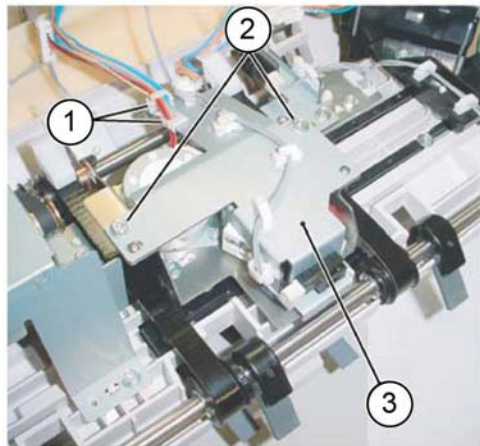

Figure 4 Bracket assembly removal
9. Remove the bracket assembly, **Figure 4**:
- a. Release the harness from both clamps (1).
- b. Remove two screws (2).
- c. Remove the bracket assembly (3).